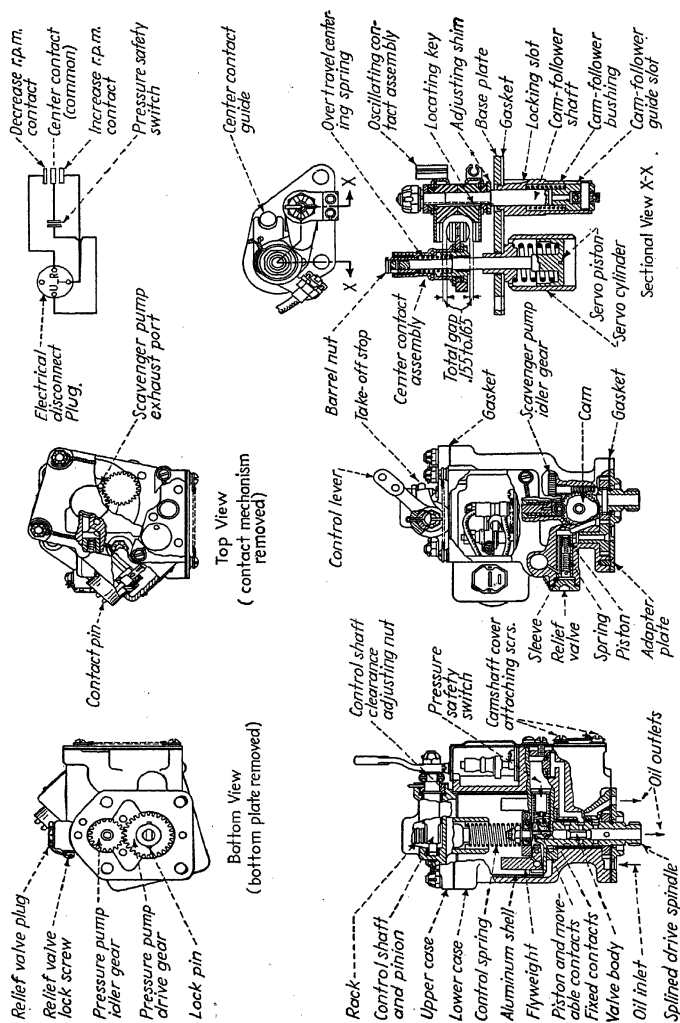

FIG. 68.—Assembly drawing of proportional governor.
**Disassembly of Governor. Upper Case (Fig. 68).**—Remove the lock wire, washers, and four castle nuts that secure the upper case. Remove the upper case and gasket.